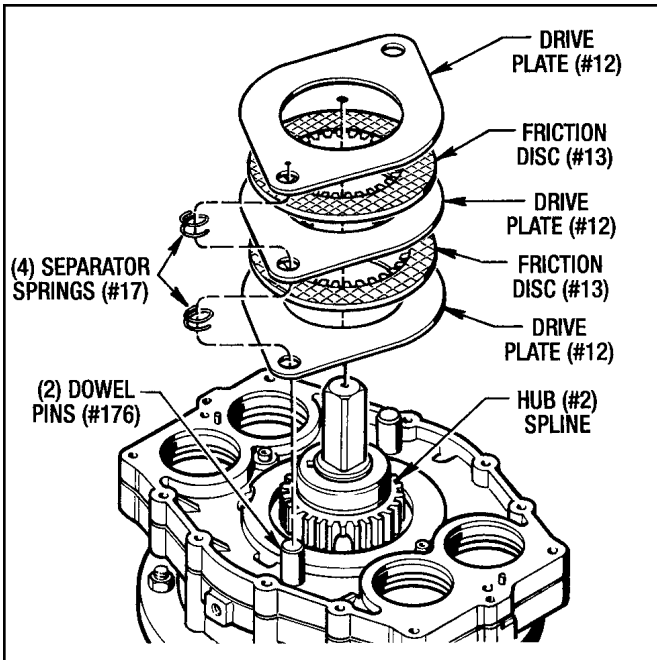

Figure 9.5 - Installing the Brake Stack
1. Install a new Brake Stack on the Hub (#2) spline and the (2) Dowel Pins (#176) as shown in Figure 9.5.